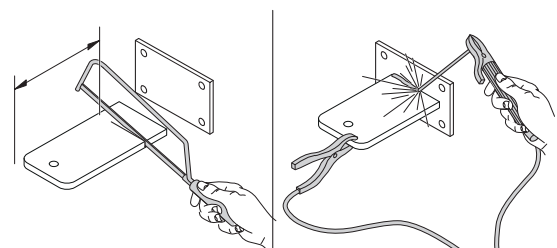

Fig. 3
**02.** Before it can be fixed to the wall, the bracket must be welded to the fastening plate (**Fig. 3**); the bracket may be cut to the desired length, adjusting **distances A** and **E** accordingly.